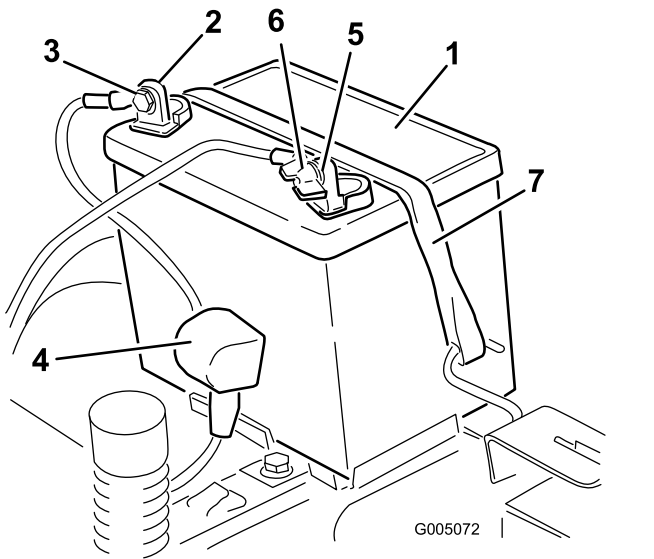

Figure 40
4. Disconnect the negative (black) ground cable from the battery post (Figure 40).
6. Disconnect the positive (red) cable from the battery post (Figure 40).
7. Remove the battery hold-down and lift the battery from the battery tray (Figure 40).
1. Position the battery in the tray (Figure 40).
5. Secure the battery with the hold-down (Figure 40).